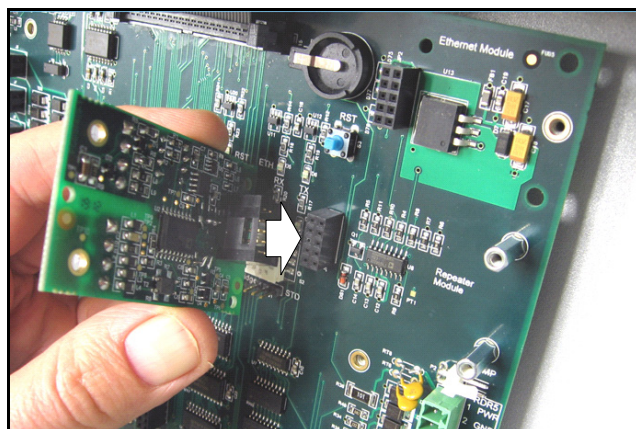

Fig. 4: Align the Repeater board plug with Interface board receptacle "JP1".
4. Align the Repeater board plug with the Interface board receptacle "JP1" as shown in Fig. 4 below.